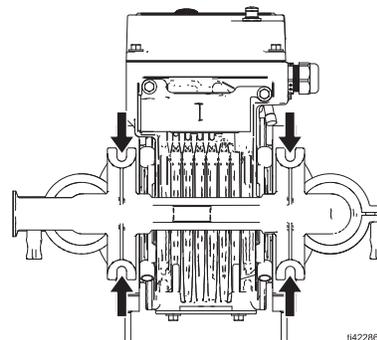

Fig. 6: Mounting Holes
Mount the pump to the mounting surface using fasteners through each hole of the feet. See FIG. 6.
3. For all mountings, be sure the pump is secured with fasteners through the mounting holes on the base. See FIG. 6. See **Dimensions**, starting on page 58.
To avoid pump damage, mount the pump to the mounting surface using fasteners through each hole of the feet. See FIG. 6.